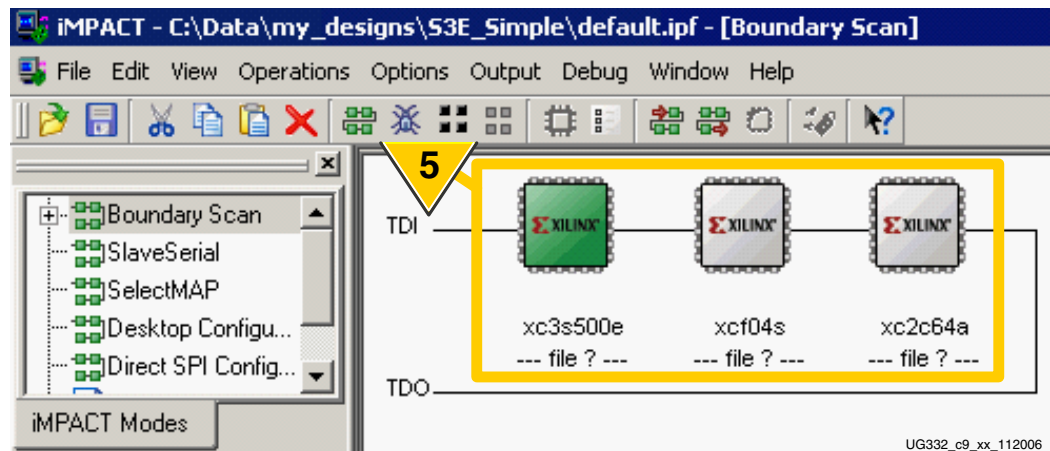

Figure 9-9: iMPACT Automatically Detects Devices on the JTAG Chain
- As shown in Figure 9-9, the iMPACT software automatically detected the devices on the chain. In this example, a Xilinx XC3S500E Spartan-3E FPGA is first in the chain, followed by a Xilinx XCF04S Platform Flash PROM, followed by a Xilinx XC2C64A CPLD in the final position. The devices are yet unprogrammed.